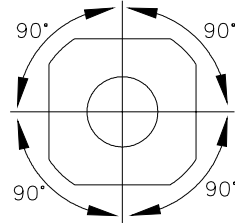

Fig 7
Step 16 Read the power meter value. Pull off the ferrule body from the sleeve, turn the ferrule body 90 degrees as fig 7 shown. Reinsert it onto the sleeve, and read the power meter value.